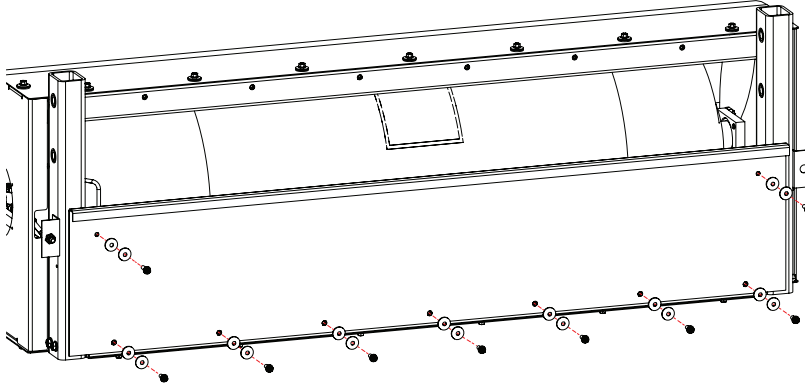

Figure 6: Remove and retain the back CNG cover and its hardware.
1. Remove the back CNG cover and its hardware (Figure 6) and set aside.